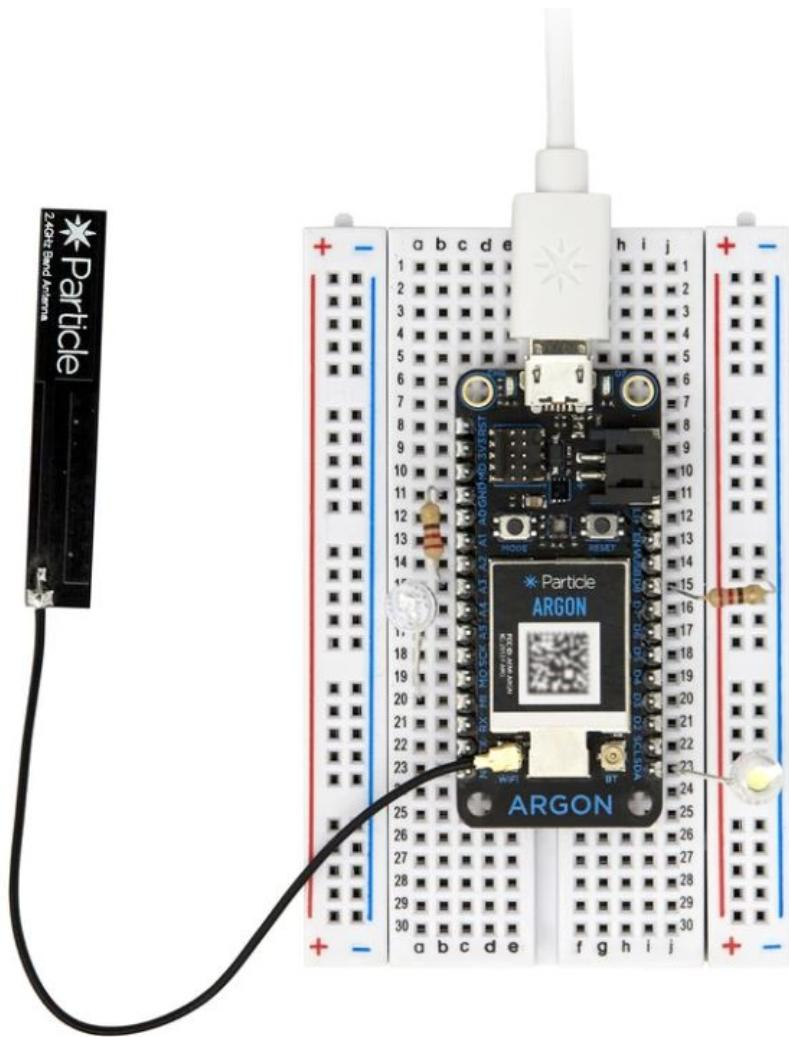

Figure 7.1: Particle Argon Setup
We will start by placing our Particle Argon onto our breadboard. Next, we will attach the WiFi antenna. And, then connect to your computer via the USB port. Check Device Manager – > Ports to see if your Argon is recognized. If not, then we will run Particle Setup through the Smartphone App. Start PowerShell or Terminal and execute the following instructions as shown in Figures 7.1 through 7.6.
1. particle login (Figure 7.1)